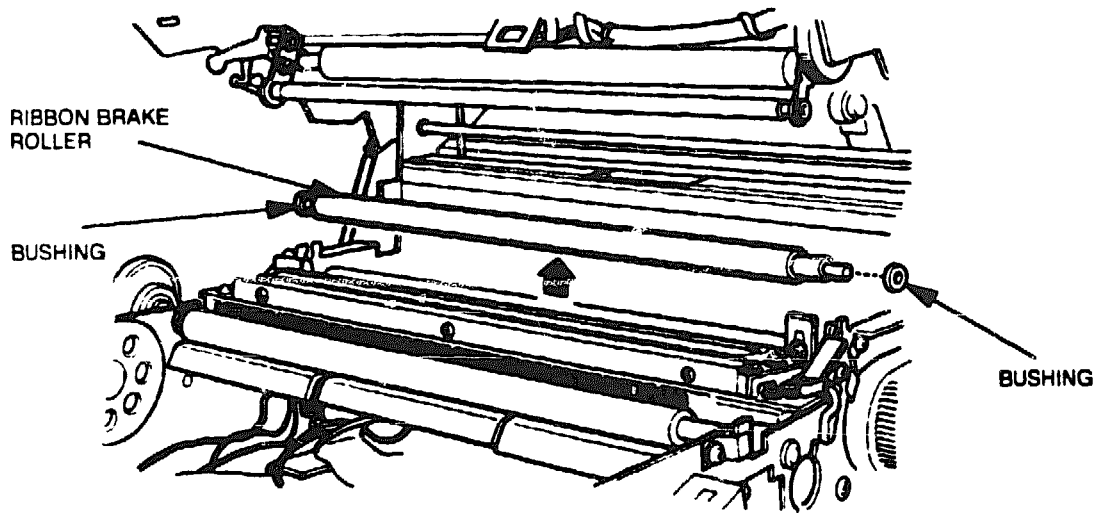

Figure 6-41 Ribbon Brake Roller
4. Using a flat-tipped screwdriver, remove the E retaining ring and bushing on the right end of the ribbon brake roller (see Figure 6-41).
5. As shown in Figure 6-41, slide the ribbon brake roller to the left and lift it off the printer.